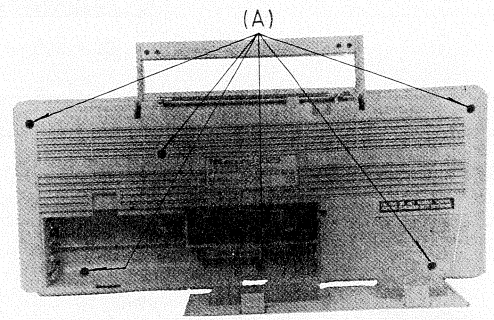

Figure 1
2. Remove 6 screws (A) from back cabinet. (See figure 1)